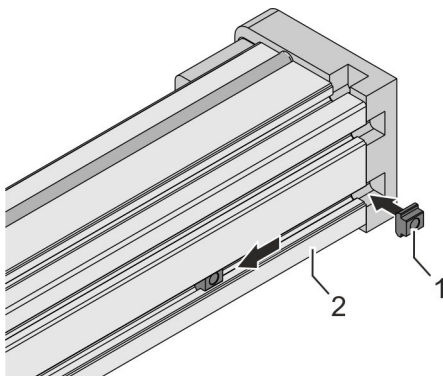

Fig. 22: Inserting slot stones
2. → Insert slot stones (Fig. 22/1) into the slot(s) on the underside of the guide profile (Fig. 22/2).